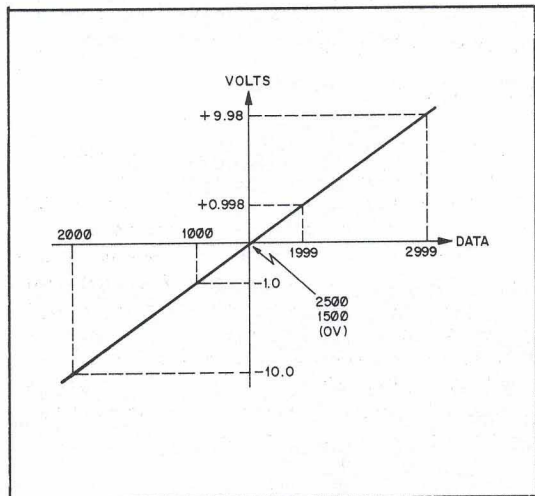

Figure 3-1. 59501A Bipolar Output Ranges
**3-10 Bipolar Mode.** The 59501A provides a bipolar output when the switch on the rear panel is set to BIPOLAR. Figure 3-1 illustrates the output of the 59501A as a function of the range and magnitude digits in the bipolar mode. Note that zero output occurs whenever the magnitude digits are 500 regardless of the range digit (1 or 2). Data word value calculations for the bipolar mode are described below.